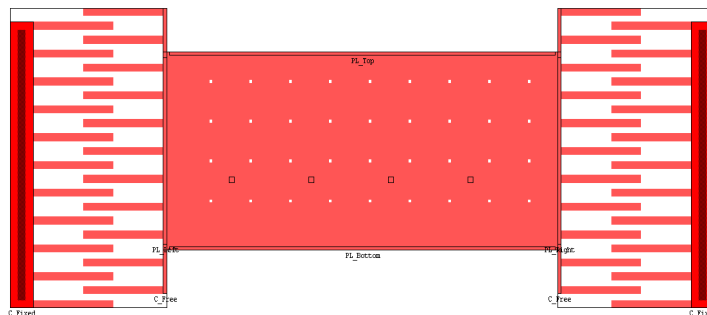

Figure 21: Viewing the uncomplete design
- ☑ Attach the second comb-drive to the left side of the plate (Figure 21).